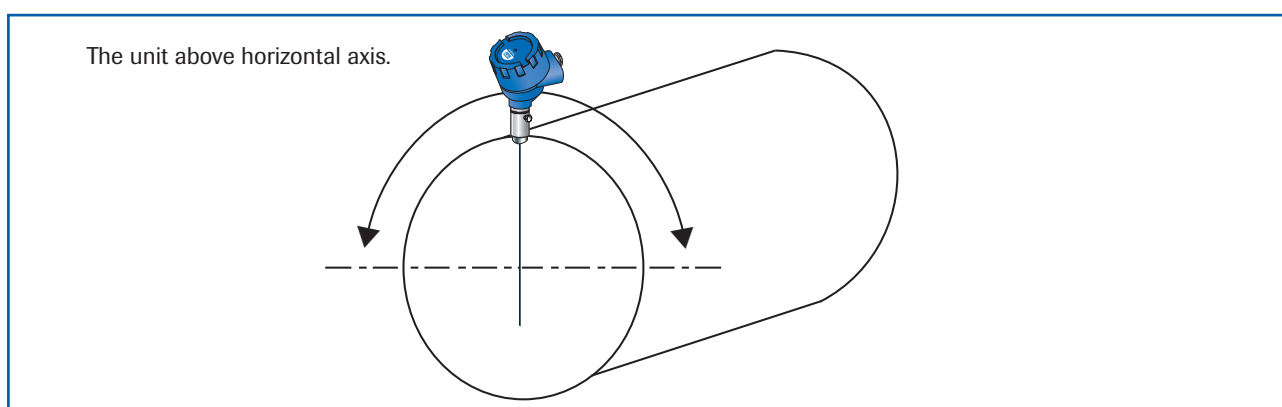

Fig. 2a: Round cross-section duct
2. In round cross-section ducts the unit can be installed in any position above the horizontal axis (between 9 and 3 o'clock). (See figure 2a)